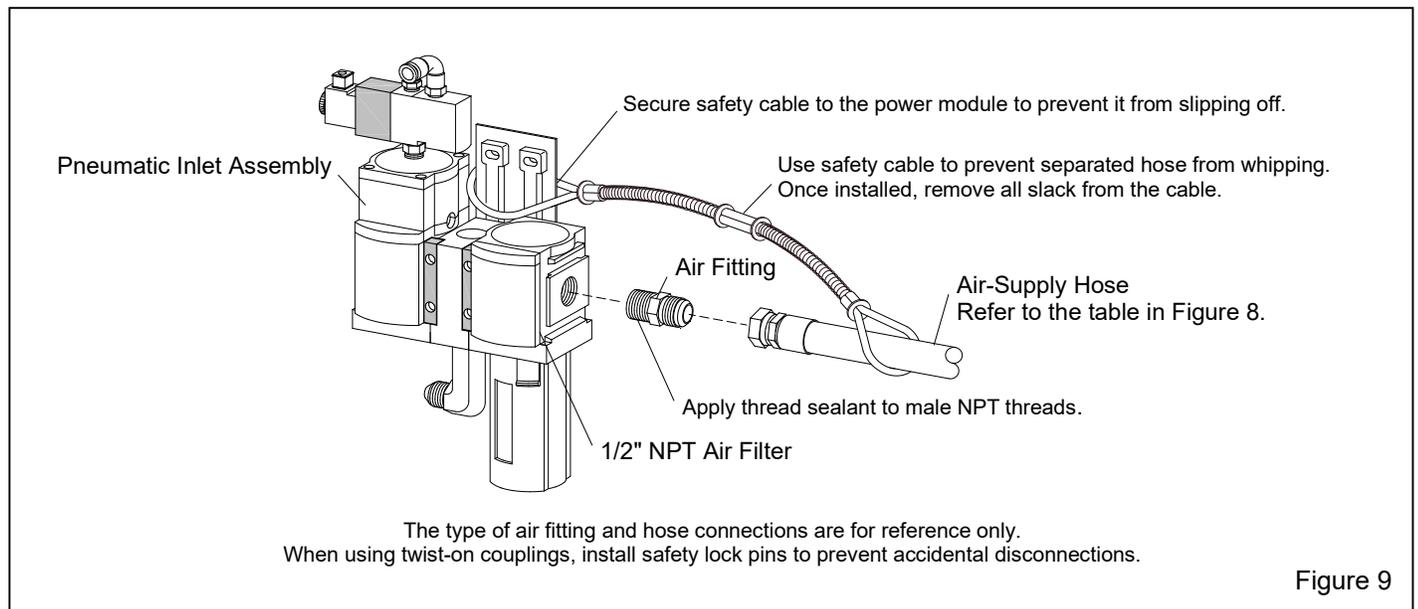

Figure 9
2.3.2 Refer to Paragraph 2.3.3 to determine the recommended air-supply hose size. Next refer to Figure 8 and apply thread sealant to the male threads of an air fitting that is compatible with the air-supply hose fitting, and then install it onto the 1/2" NPT air filter (pneumatic inlet assembly) located on the power module. The style of connection shown in Figure 9 is for reference only.